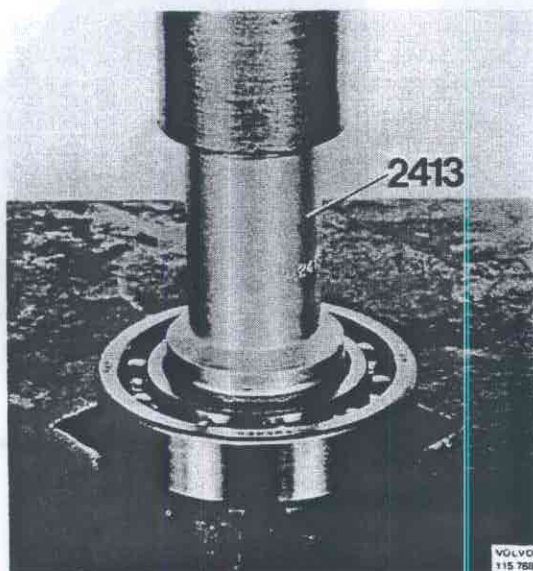

Fig. 46-99. Removing the bearing
9. Remove the circlip on the gear wheel and press off the bearing with 2413, Fig. 46-99.